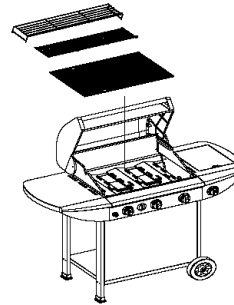

Figure 16
1. Evenly space cooking grids on the ledge above heat diffusers. (Fig.16)
2. Slide the 1st(bottom) warming rack into the brackets in the grill bowl side panels, and insert the legs of the 2nd(top) warming rack into the holes in the tops of the grill bowl side panels. (Fig.16)